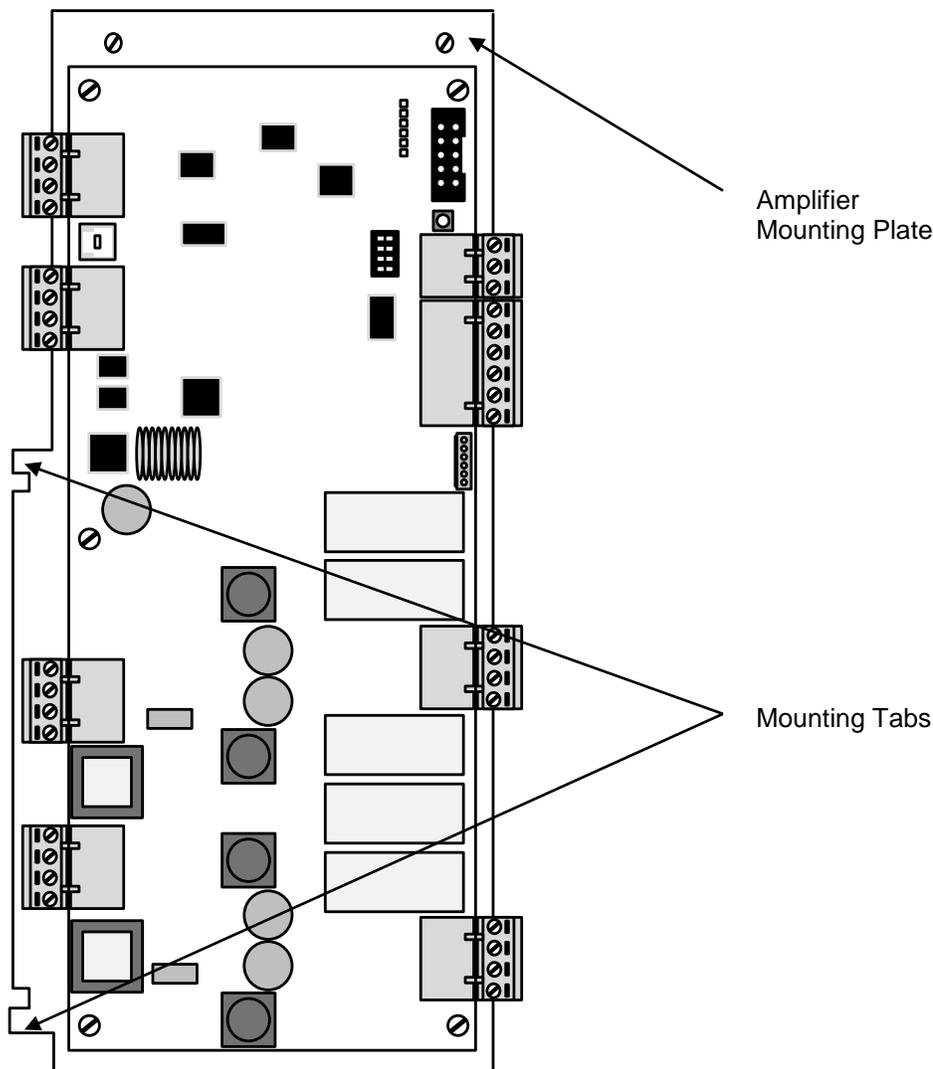

Figure 33 - NX-AMP-80 Amplifier Replacement
If replacing an NX-AMP-80 amplifier, remove power (AC and battery) from the system. When replacing the amplifier remove the amplifier and its attached mounting plate from the enclosure and replace with a new amplifier mounted to its own mounting plate (see figure 33).
Remove all field wiring terminal blocks from the NX-AMP-80 amplifier and remove the two (2) screws securing the amplifier mounting plate to the enclosure. Carefully slide the amplifier assembly from under the back box mounting tabs located on the left side of the amplifier mounting plate (see figure 33).